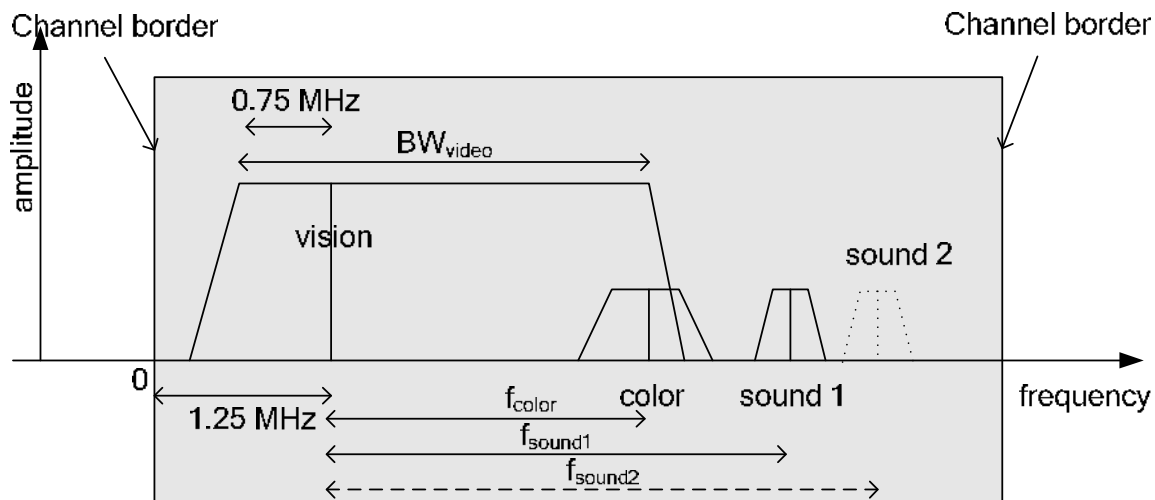

Fig. 2–32 Analog modulated signals in the RF range
For analog modulated TV signals based on PAL, SECAM, and NTSC, Fig. 2–32 shows the situation in principle: the components of the signal, and both frequency and level at the output of a TV transmitter (RF range).
- The vision carrier, indicated in Fig. 2–32 with "vision", is located 1.25 MHz above the channel start. The vision carrier has the highest level and mainly assesses the total power of the channel. It transmits the luminance information and is amplitude modulated. The amplitude modulation is mostly negative (the smaller the luminance signal the larger the vision carrier level), apart from SECAM/L (large vision carrier level combined with a large luminance signal). Only a part (around 0.75 MHz) of the lower sidebands of the vision carrier is transmitted. Therefore it is called "residual sideband modulation". The video bandwidth BW_{video} amounts to, depending on the standard, approx. 5 MHz (e.g. PAL B/G) or approx. 4 MHz (e.g. M/NTSC).
- The color carrier, indicated in Fig. 2–32 with "color", is shifted by f_{color} to a higher frequency value in respect to the vision carrier. The magnitude of f_{color} depends on the standard. The level of the color carrier is by far smaller than that of the vision carrier. Depending on the standard, the signal is analog quadrature amplitude modulated (e.g. PAL B/G) or frequency modulated (SECAM).
- One or two sound carriers, indicated in Fig. 2–32 with "sound 1" and "sound 2", are shifted by f_{sound1} or f_{sound2} to a higher frequency value in respect to the vision carrier. The magnitude of f_{sound1} or f_{sound2} depends on the standard. The level of the sound carriers is by far smaller than that of the vision carrier. Depending on the standard, the sound carriers are frequency, amplitude, or NICAM (digitally) modulated. The sound carriers do not need to possess the same modulation. For example, a combination of a frequency modulated carrier with a NICAM modulated carrier is possible.